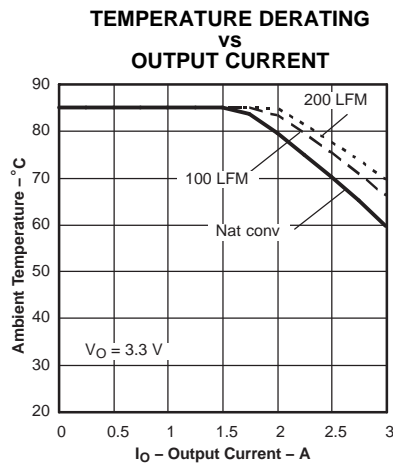
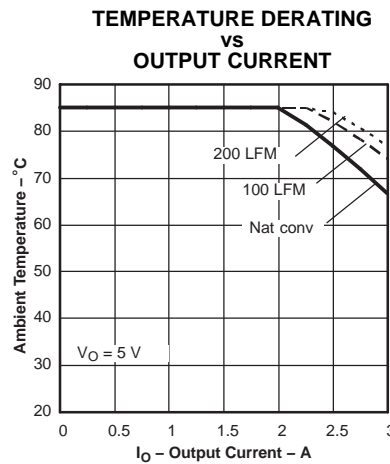

Figure 4.
Figure 5.
- (2) The temperature derating curves represent the conditions at which internal components are at or below the manufacturer's maximum operating temperatures. Derating limits apply to modules soldered directly to a 100 mm x 100 mm, double-sided PCB with 2 oz. copper. For surface mount packages, multiple vias (plated through holes) are required to add thermal paths around the power pins. Please refer to the mechanical specification for more information. Applies to Figure 4 and Figure 5.